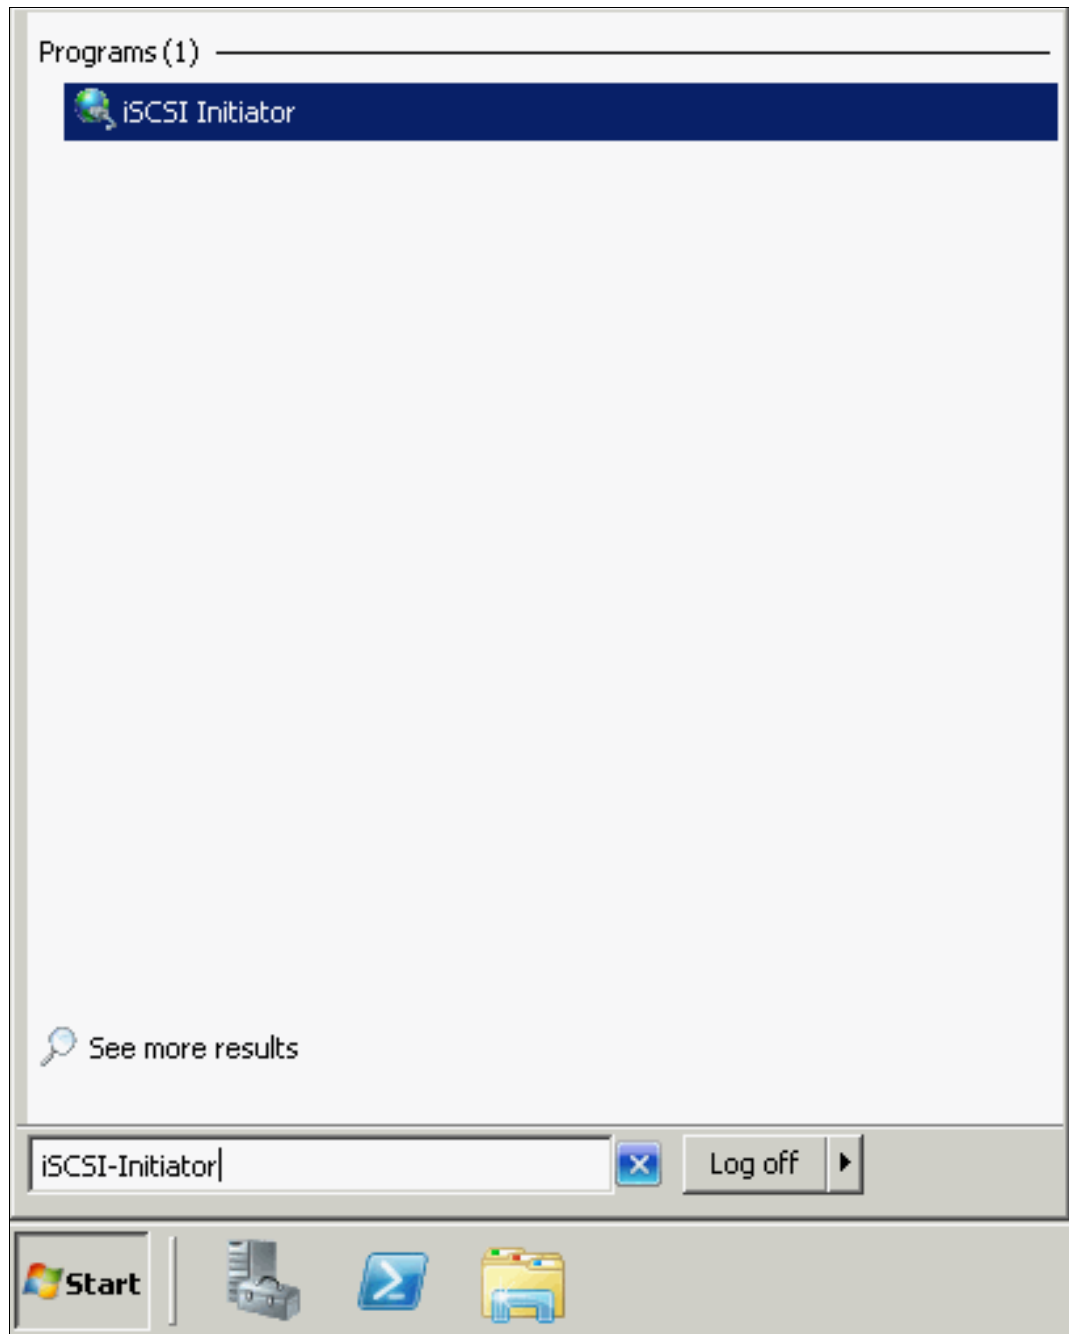

Figure 5-9 Windows 2008 R2 iSCSI Initiator
1. Enter `iscsi` in the search field of the Windows 2008 R2 Start window (see Figure 5-9) and click **iSCSI Initiator**.